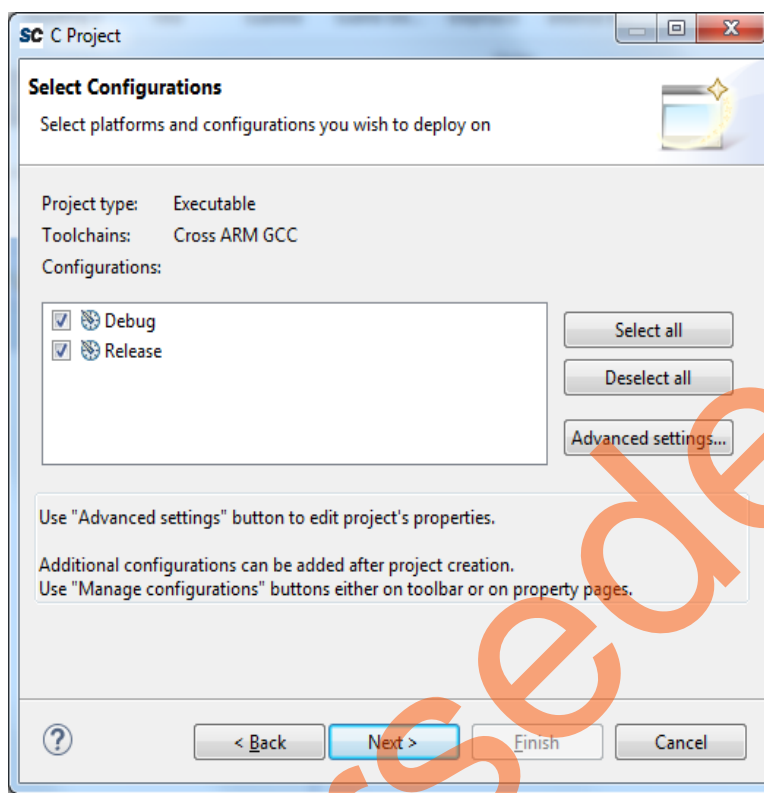

Figure 27 • C Project - Select Configuration
5. Click **Next**, **Select Configurations** window is displayed, as shown in Figure 27.